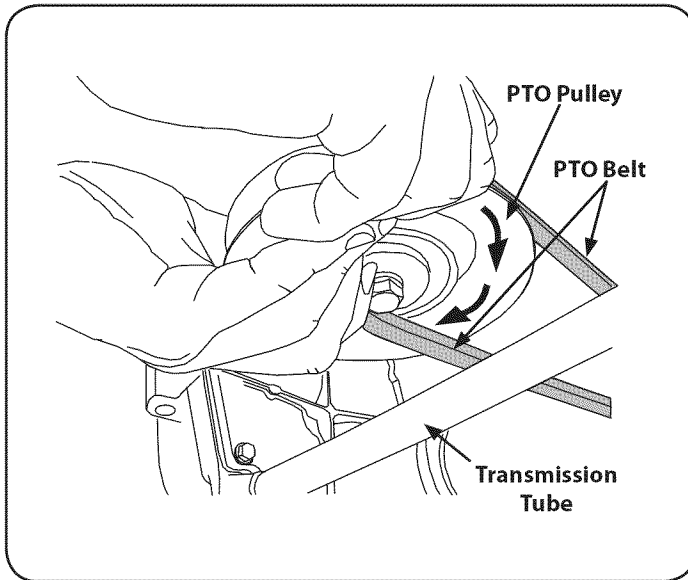

Figure 37
- d. While still holding the belt downward, continue turning the PTO pulley until the belt is rolled off the pulley. Refer to Figure 37.